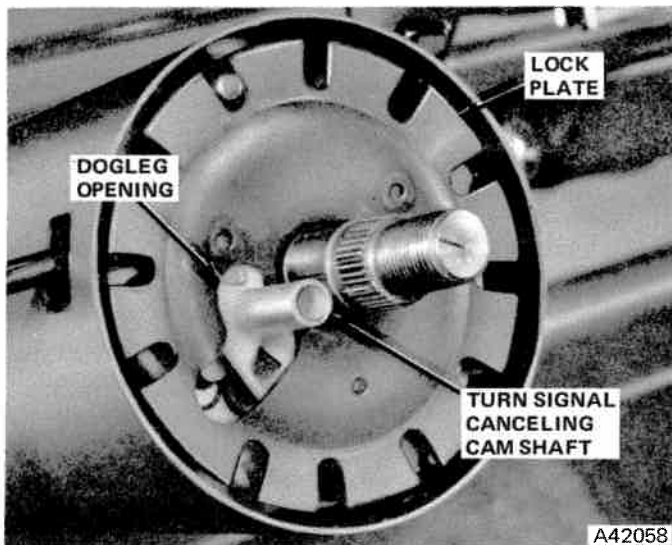

Fig. 11-20 Lock Plate
(5) Install turn signal lever and actuate directional signal switch to ensure correct operation.
(6) Install steering shaft.
(7) Place thrust washer, spring, and directional signal canceling cam on upper end of steering shaft.
(8) Align lock plate splines with steering shaft splines and place lock plate in position with directional signal canceling cam shaft protruding through dogleg opening in lock plate (fig. 11-20).
(9) Place steering shaft snap ring onto Lock Plate Compressor Tool J-23653.
(10) Install tool on steering shaft and compress lock plate and push snap ring into place.
(11) Remove tools.
(12) Install anti-theft cover.
(13) Align directional signal canceling cam, index marks on steering shaft and steering wheel and install steering wheel. Tighten steering wheel nut to 20 foot-pounds torque.
(14) Install hazard warning light switch button and steering wheel trim cover.
(15) Install shift lever, if equipped.
(16) Install key lock cylinder.
(17) Install and adjust ignition switch.
(18) Adjust neutral safety and backup lamp switch.